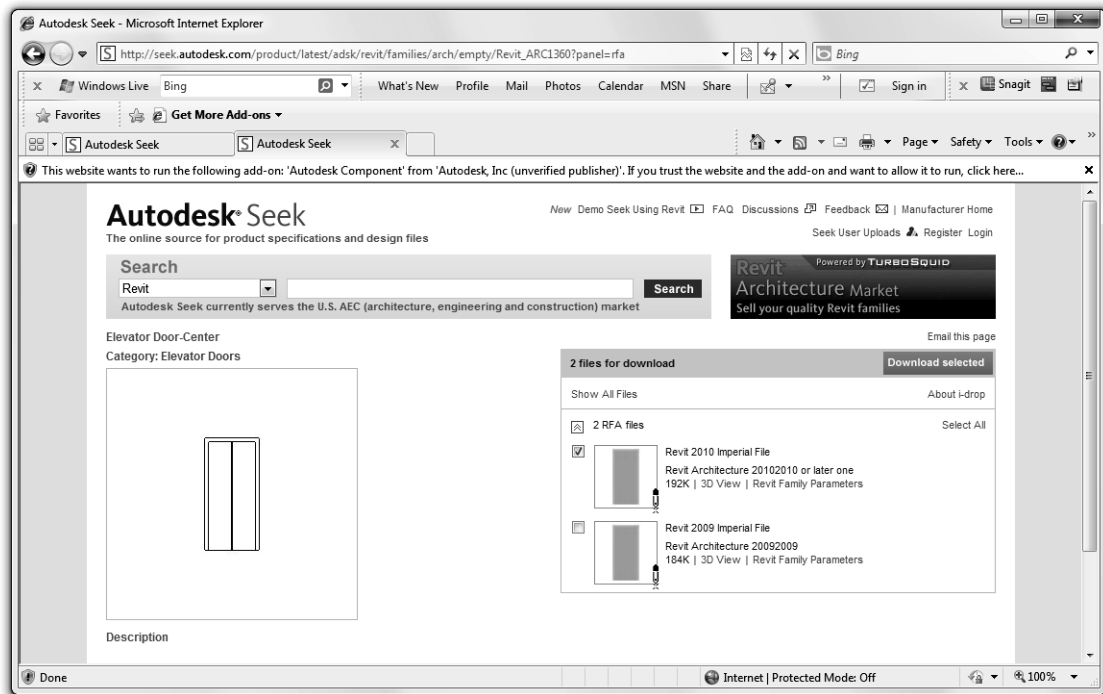

FIGURE 3-4.8 Elevator door from Seek.Autodesk.com
21. Similar to the steps previously covered, load the **Elevator Door – Center** family from the Seek.Autodesk.com website (Figure 3-4.8).